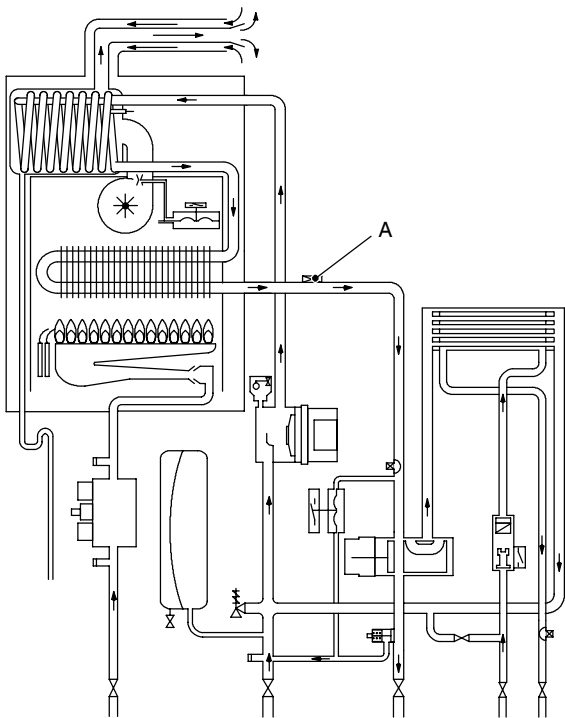
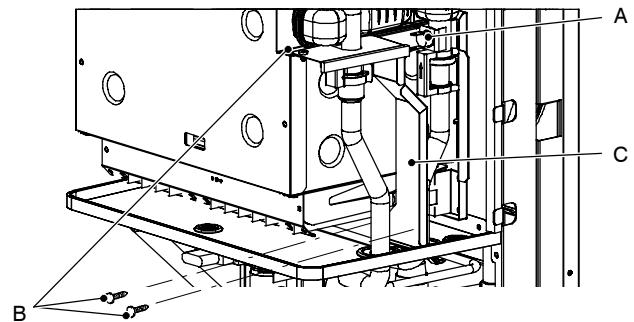

Fig. 87
Fig. 88
- 3 Remove the plate C (see Fig. 88 on page 36).
The safety thermostat *A* in Fig. 87 and Fig. 88 is a device that senses the temperature of the primary circuit water which flows in the outlet pipe of the primary heat exchanger.
- 2 Remove the screws *B* and the plate *C* (Fig. 88).
- 2 Remove the screw *B* and the plate *C* (Fig. 88).